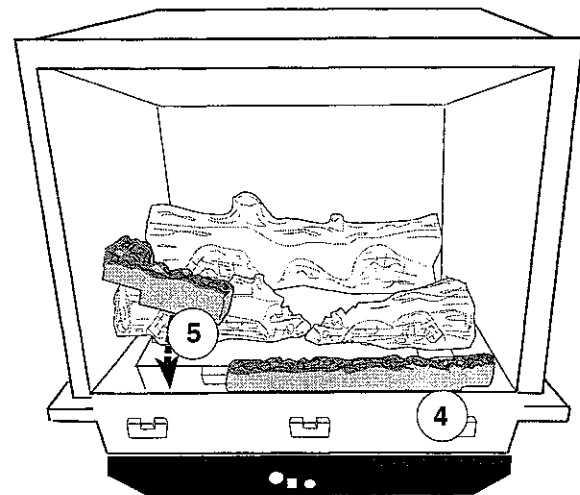

Fig. 21. Install the front ember logs.
- Press the burner assembly fully to the rear. There should be a gap of about 13/16" between the front of the burner and the inside log wall of the firebox. Place the two front ember log sections (#4 and 5, Fig. 21) in the slot at the front of the firebox, just in front of the burner, as shown in Fig. 21.